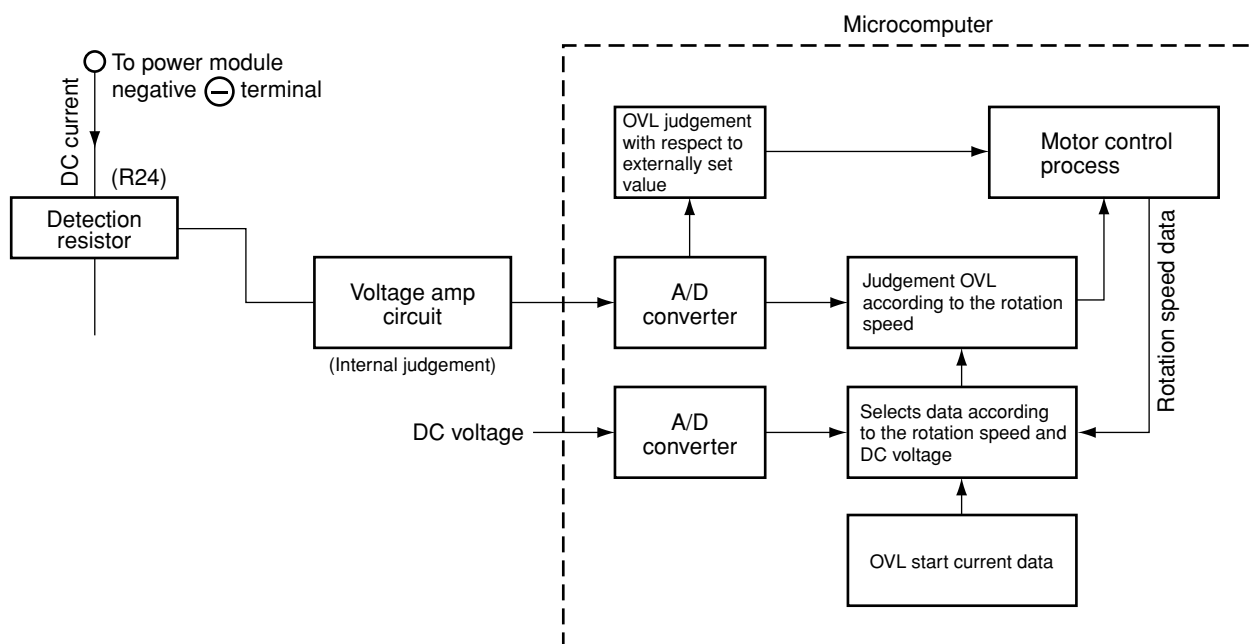
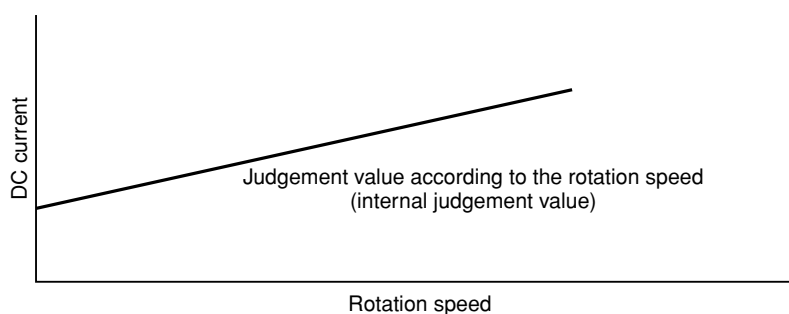

Fig. 8-4 Overload Control System Configuration
Fig. 8-5
- As shown in diagram, if current exceeding 21A (27A for RAC-50NH4) flows, voltage at point (A) recognized by detecting resistor is input to pin ⑩ of SPM2 – HIC, and voltage divided by R41 and R43 is input to pin ⑨ of IC1. Since threshold of IC1 is exceeded in this case, Lo signal is input from pin ⑧ (Voltage at point (B)). When Lo signal is input to pin ⑰ of microcomputer, microcomputer stops drive output.
(2) Overload control circuit (OVL control circuit)
- Fig. 8-4 shows the overload control system configuration and Fig. 8-5 is a characteristic diagram of overload judgement values. There are two judgement methods-external judgement which compares the externally set value with the DC current value regardless of the rotation speed and internal judgement which compares the set value that varies according to the rotation speed programmed in the microcomputer software with the DC current value.